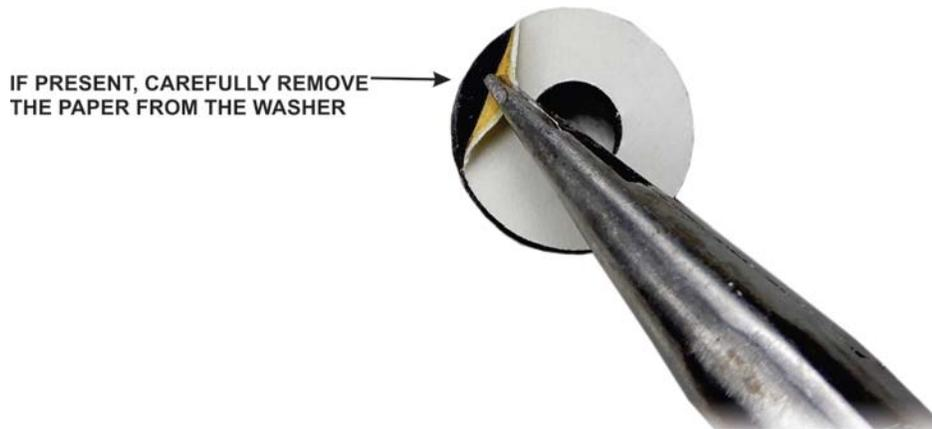

Figure 14. Preparing the Rubber Washer for Mounting on the VFO B Encoder.
- Locate the rubber washer.. If it has paper attached to one side, carefully remove it (See Figure 14).
- Place the front panel over the CP board as shown in Figure 14. You will need to reach under the CP board and lift it up into position with the four encoders through the corresponding holes in the front panel. While positioning the CP board:
- ☐ Place the bezel on the front panel and secure it, and the CP board inside, as shown in Figure 14.